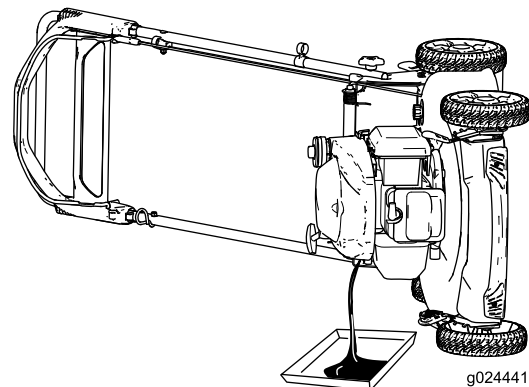

Figure 21
4. Tip the machine onto its side with the dipstick down to drain the used oil out through the oil-fill tube (Figure 21).